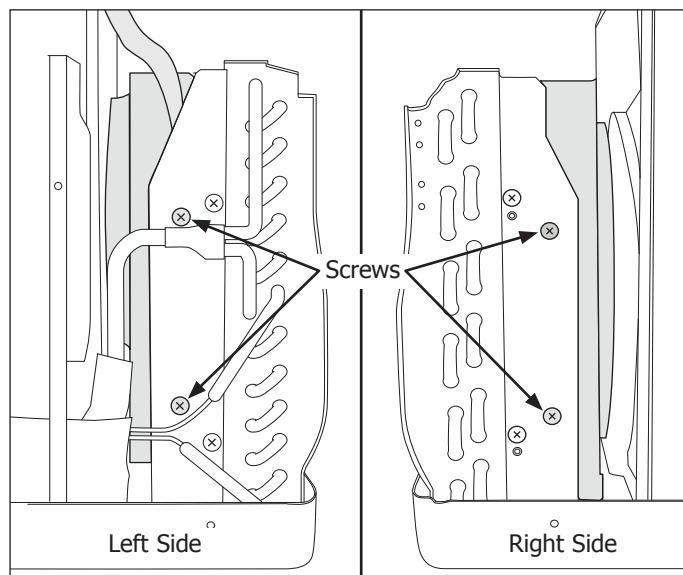

Figure 4-63.
6. Extract two screws from each side of the evaporator securing the heater assembly and front scroll cover to the evaporator flange. (See Figure 4-63)